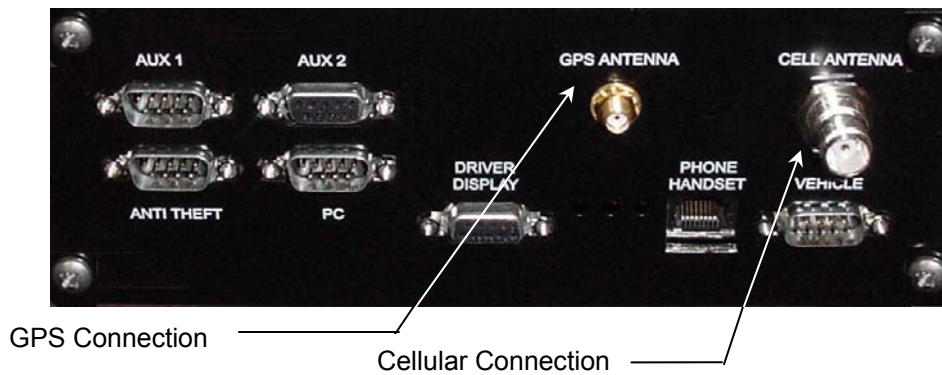

Figure 11: Detail of Connections to Truck-Link CPU
- 9 Connect the antenna cables to the Truck-Link CPU. (see Figure 11, below).